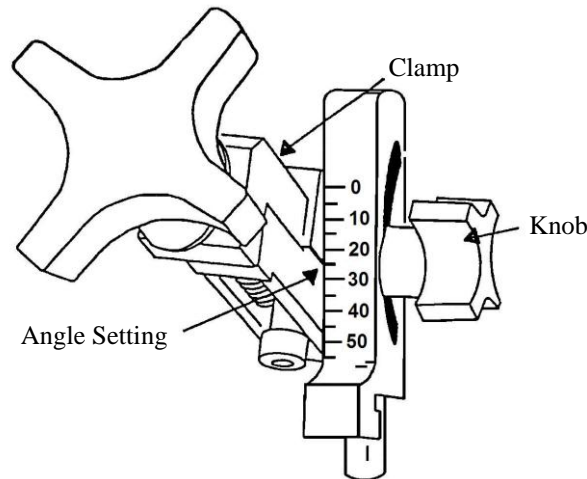

Figure 4
8.3 Preparing the EdgeKing® For Sharpening (See Figure 4)
The angle of the clamp assembly determines the angle at which the scissors blade will be sharpened. The clamp supplied with the EdgeKing® has a fixed (non-adjustable) sharpening angle of 25 degrees. An adjustable support, like the one shown in Figure 4, is available from Bettcher Industries.